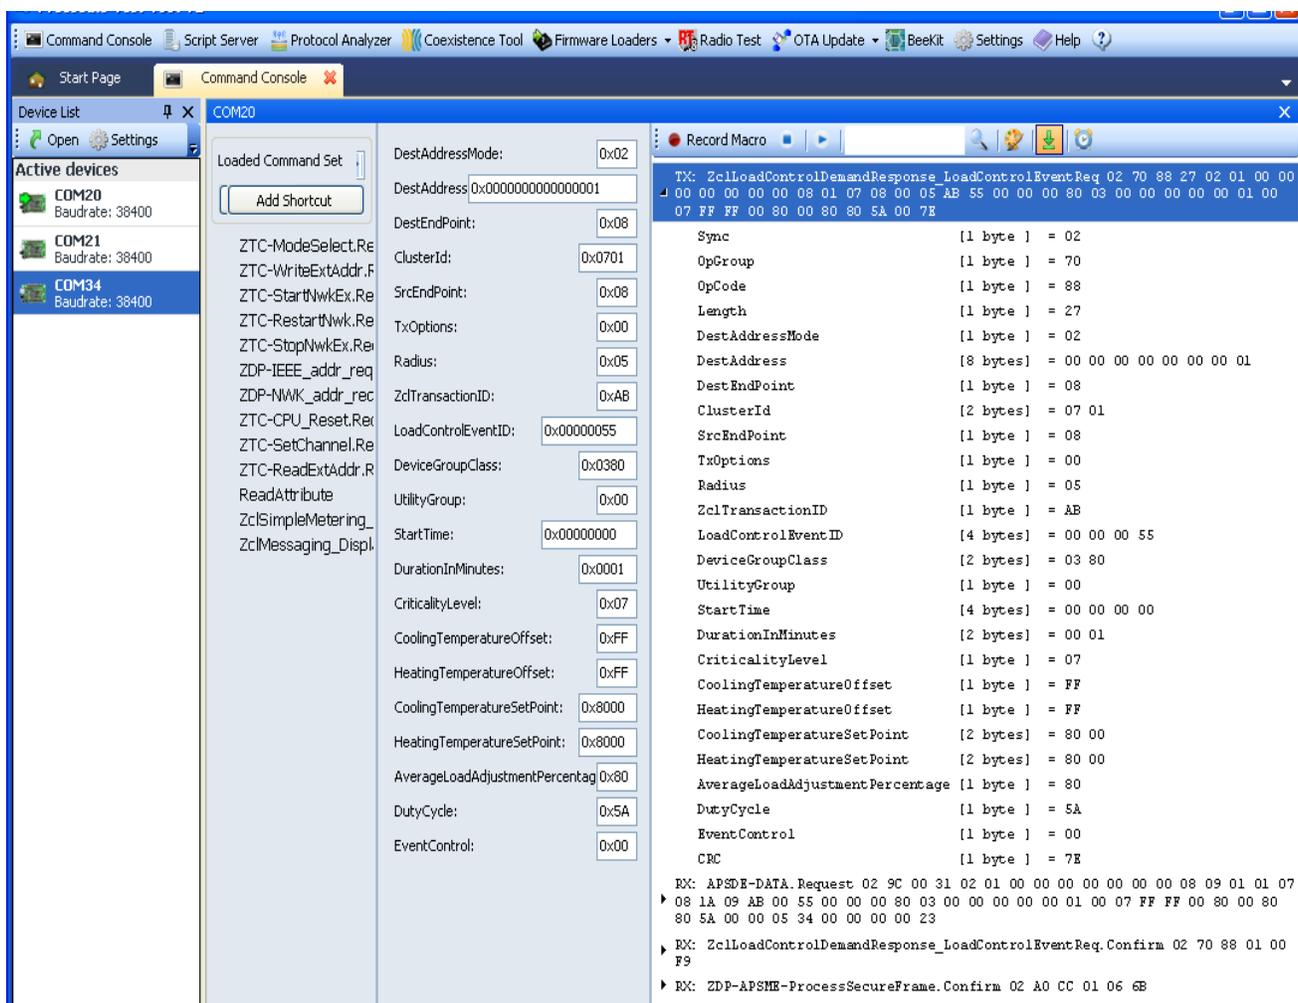

Figure 6-17. Load Control Event (Step 6)
7. Perform Step 2 again. During load control event execution, send the other “Load Control Event request” with the field values as shown in Figure 6-17.